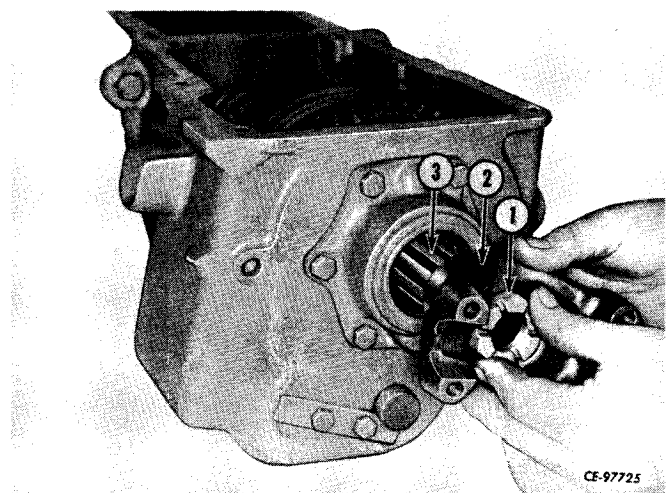

Figure 4-64
Install output yoke (2, Fig. 4-64) on main shaft (3). Install and tighten nut (1) to recommended torque. Refer to "SPECIAL TORQUES" under "SERVICE INFORMATION."